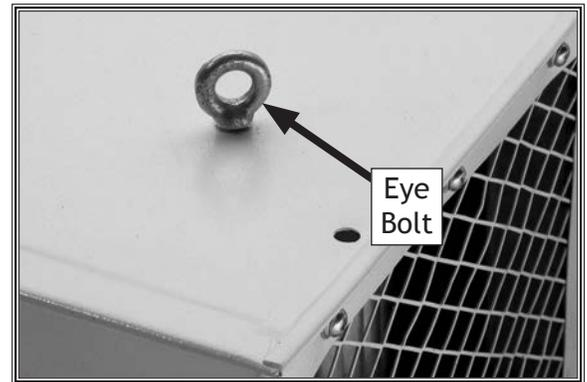

Figure 14. Eye bolt correctly seated.
3. Attach (4) M6-1 x 20 eye bolts to air filter and tighten until snug (see Figure 14).
4. With help of an assistant, raise and secure (4) eye bolts to hanging lines.